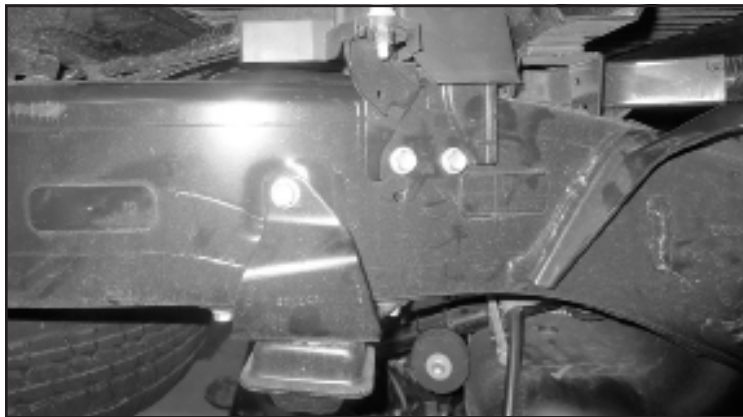

FIGURE 3 - STEP 6
6. Remove the factory rear bumpstops from the frame. Save hardware. **SEE FIGURE 3**